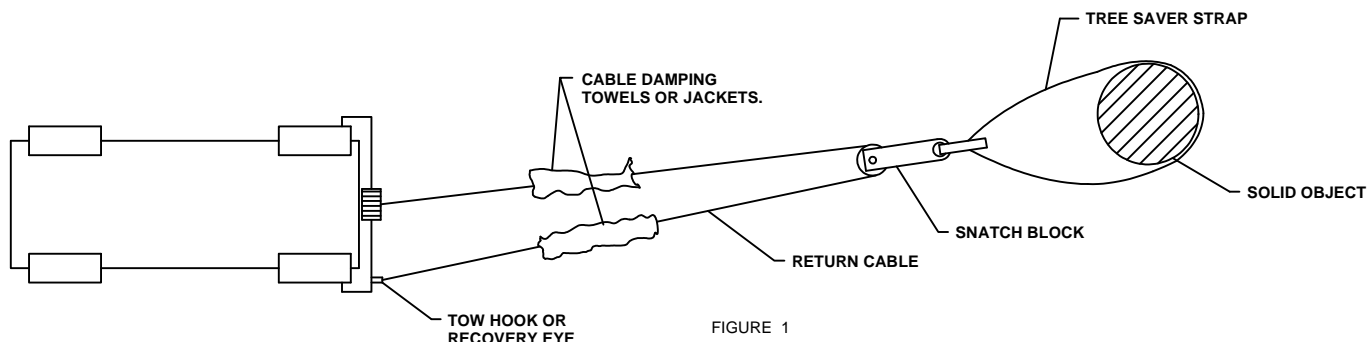

FIGURE 1
- 3) Attach return cable to tow hook or recovery eye when using a snatch block (See figure 1).